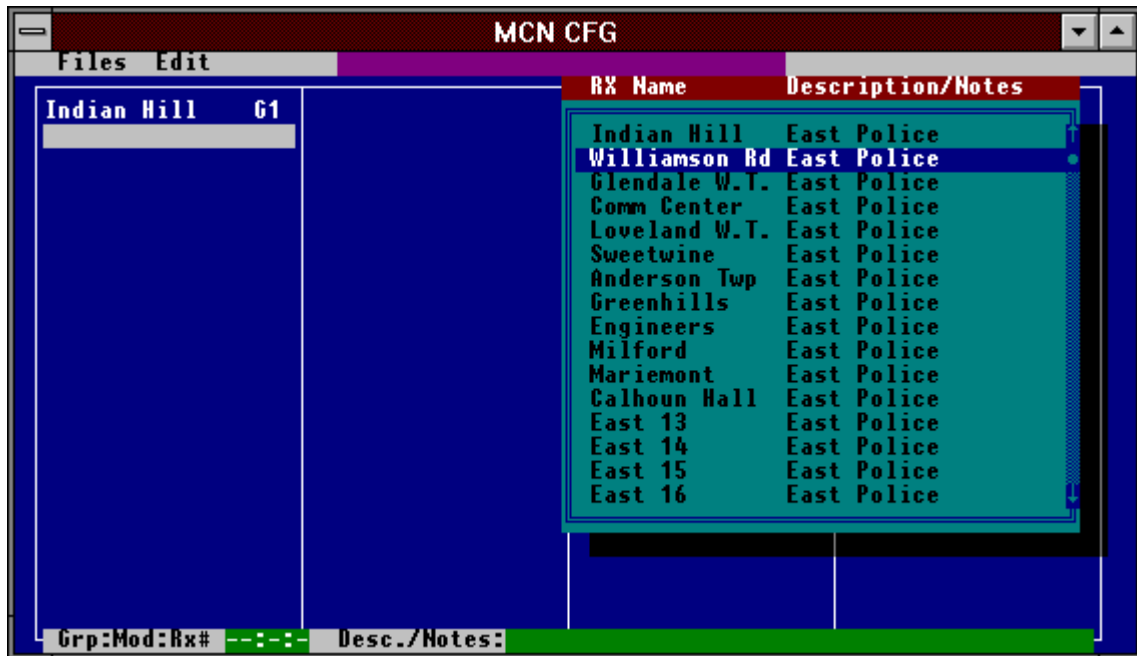

Figure 17 - Placing Receivers on a Display Screen
2. Press E. This brings up the receiver list box as shown in Figure 17.